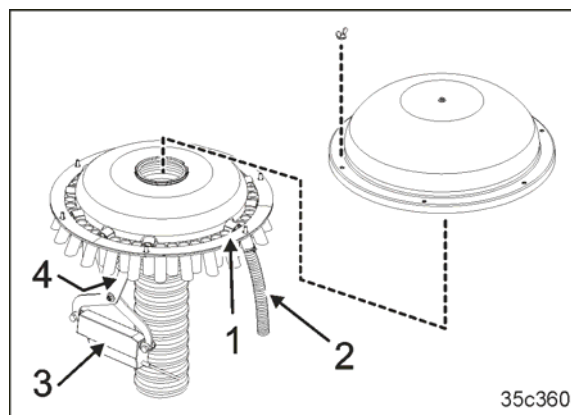

Fig. 100
- the tramline control on the distributor head uses shutters (Fig. 100/1) to block the seed feeding lines to the seed lines (Fig. 100/2) of the tramline coulters.
Seed supply to the tramline coulters is interrupted as soon as the electric motor (Fig. 100/3) closes the appropriate seed tubes (Fig. 100/2) in the distributor head.
A sensor (Fig. 100/4) checks whether the shutters (Fig. 100/1), which open the and close the seed line tubes (Fig. 100/2), are working properly.